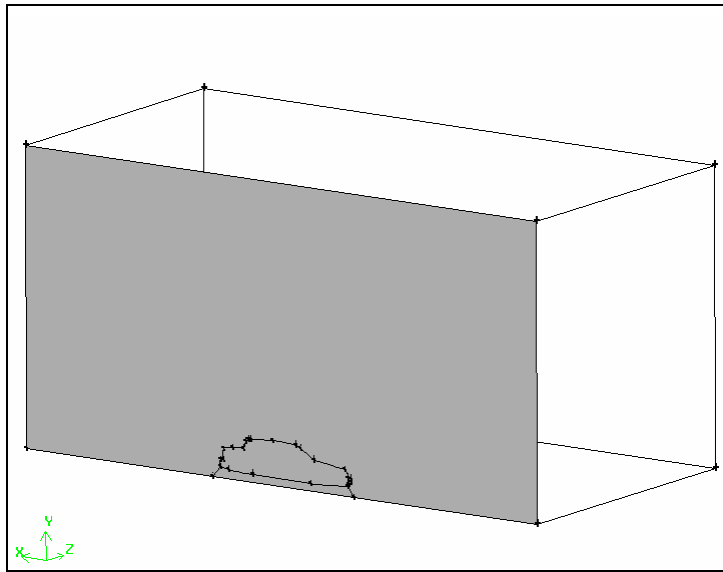

Figure 5-23: Symmetry plane of the brick
- e) *Shift-left-click* the back face of the brick (the symmetry plane) in the graphics window, as shown in Figure 5-23.
- e) *Shift*-left-click the back face of the brick (the symmetry plane) in the graphics window, as shown in Figure 5-23.
- c) Select the symmetry-plane face in the graphics window (as shown in Figure 5-23) and remember the label name (for example, *face.147*).